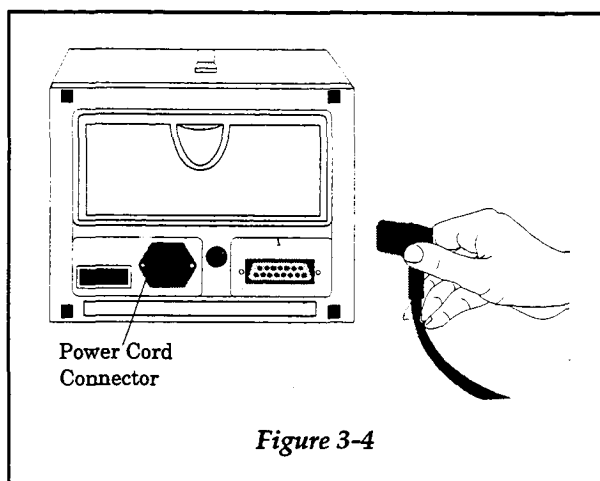

Figure 3-4
**Step 3** Plug the electrical cord into the power connector on the back of the unit. Figure 3-4.